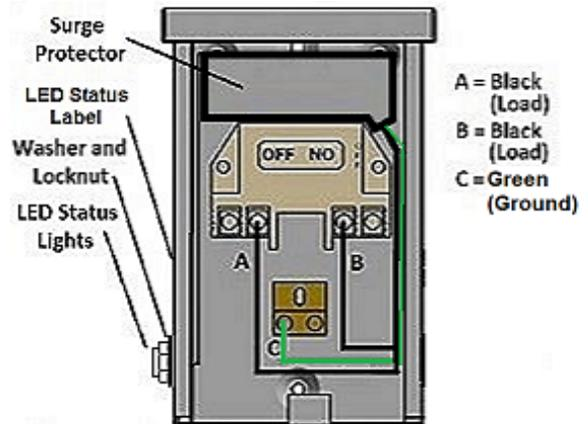

Figure 1
1. You may temporarily remove the Surge Protection Device Module to gain access to the mounting holes. After mounting AC disconnect carefully return the SPD back to its original position. Referring to Figure 1, ensure wires from SPD are securely fastened to the appropriate terminal lugs as noted.
To connect the MARS 83910 Surge Protective Device module in the AC Disconnect Closure, refer to Figure 1 and follow the installation instructions below.